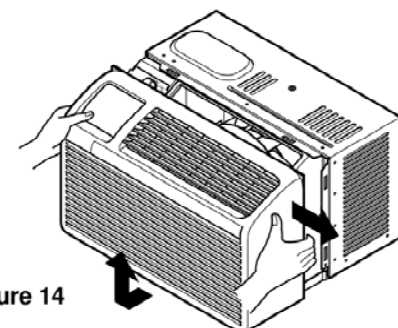

Figure 14
3. Push the front grille up from the bottom. Pull the top of the front grille away from the cabinet as the top tabs lift out of their slots. (See Figure 14)